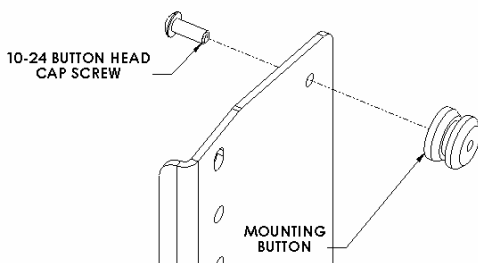
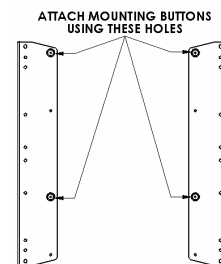

Figure 2
Figure 3
1. Using a 10-24 button head cap screw inserted from back side of bracket, secure mounting button with chamfered hole of mounting button (larger surface) facing bracket, to side brackets (four places) (See Figure 2 & Figure 3).